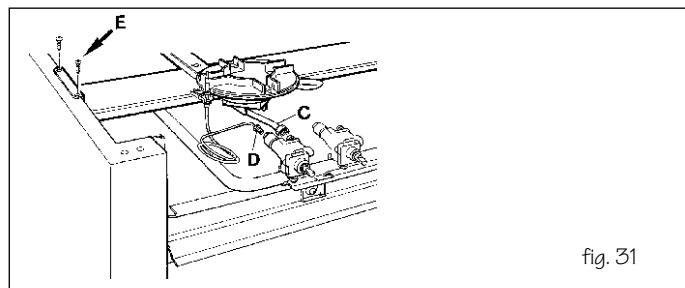

fig. 31
- 1) unscrew the lock nuts "C" and "D" and screws "E" (Fig. 31)